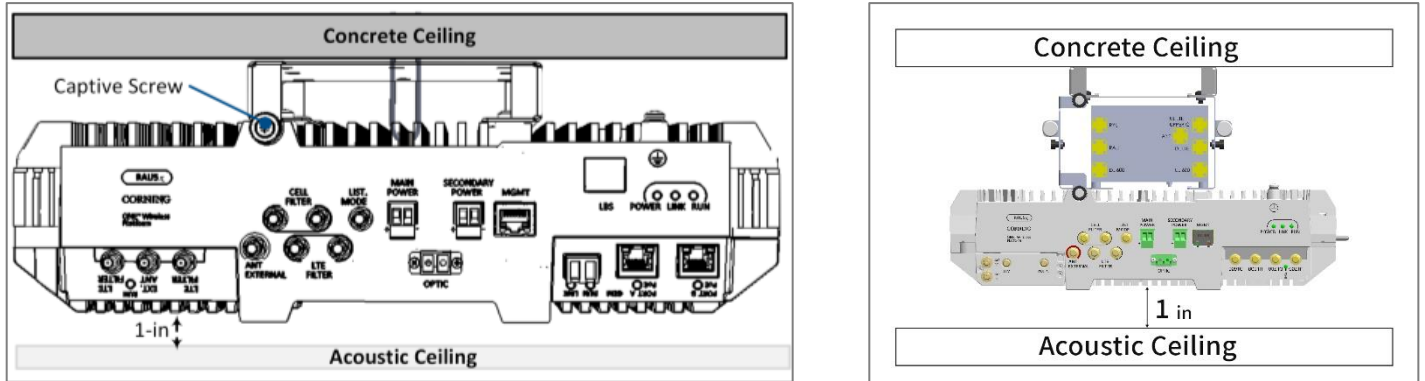

Figure 4-1. Examples of Concrete Ceiling Installation of Mounting Bracket: RAU5x without External Antenna; RAU5x with RxU67 cavity filter.
- When mounting the bracket on a wall the captive screw (indicated in Figure 4-1) should always be positioned in the same direction as the RAU5x connectors.